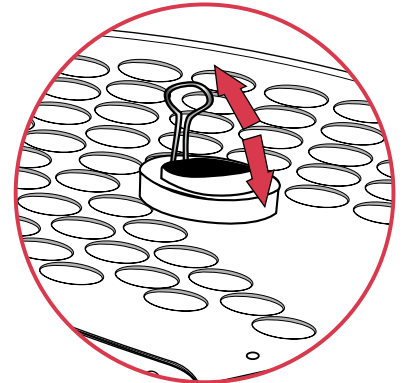

Fig.3
2. During operation, bingo balls will be blown up the ball tube and will be held captive at the top of the ball tube by the ball stop. The bingo ball can be removed from this position by gently pulling it toward you at a slight upward angle. The ball stop has limited adjustability to increase or decrease its hold on the bingo balls. By firmly grasping the end of the ball stop with one hand and holding the top of the ball tube with the other hand, the wire can be gently bent as shown in Fig 3. Bending the ball stop upward will decrease its hold on the ball; bending it downward will increase its hold. Adjustment should be made in small increments and with great care.